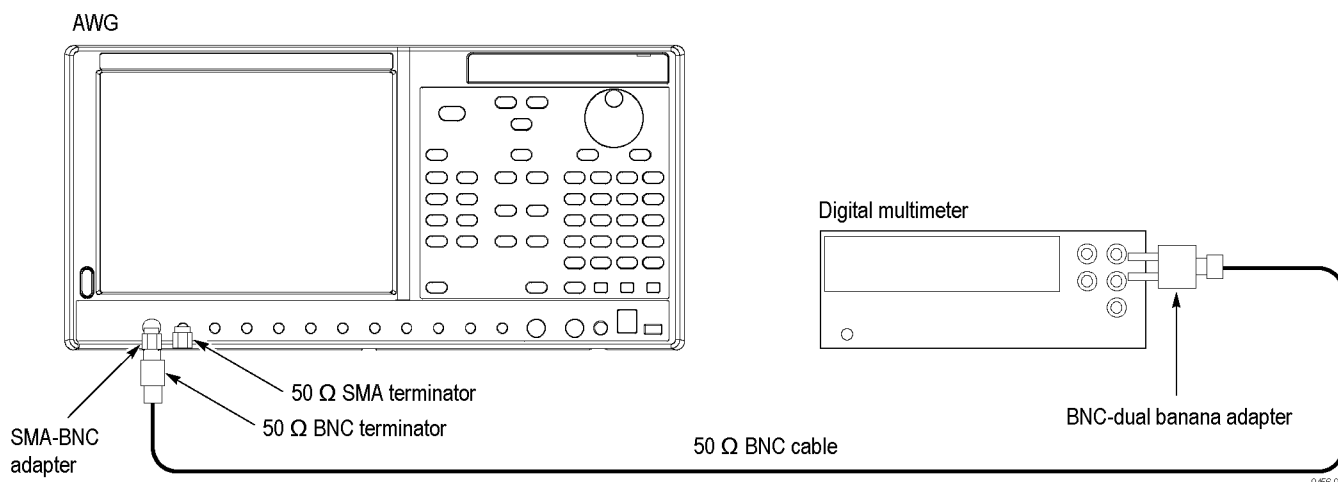

Figure 7: Equipment connection for verifying the analog offset accuracy
3. Use the 50  $\Omega$  BNC cable, SMA-BNC adapter, 50  $\Omega$  BNC termination, and BNC-Banana adapter to connect the Channel 1 Analog connector on the instrument to the HI and LO inputs on the digital multimeter. (See Figure 7 on page 35.)
4. Use the 50  $\Omega$  SMA termination to terminate the Channel 1 Analog connector on the instrument. (See Figure 7 on page 35.)